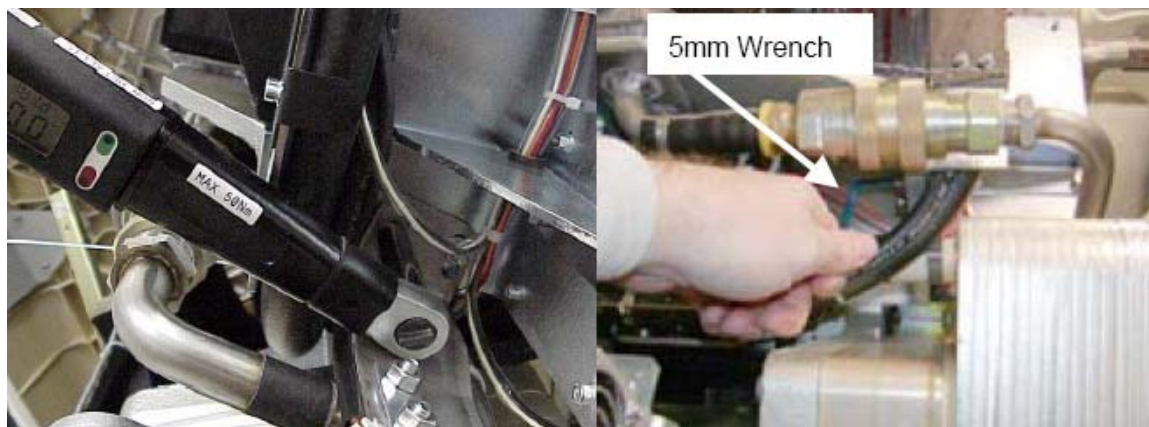

Figure 6. Torque heat exchanger mounting screws
7. Inspect, again, that no wires are caught between the bracket and heat exchanger and tighten the two heat exchanger nuts using a 10mm socket with extension and a 5mm Allen wrench (Figure 6). Torque to the value in Table 1.